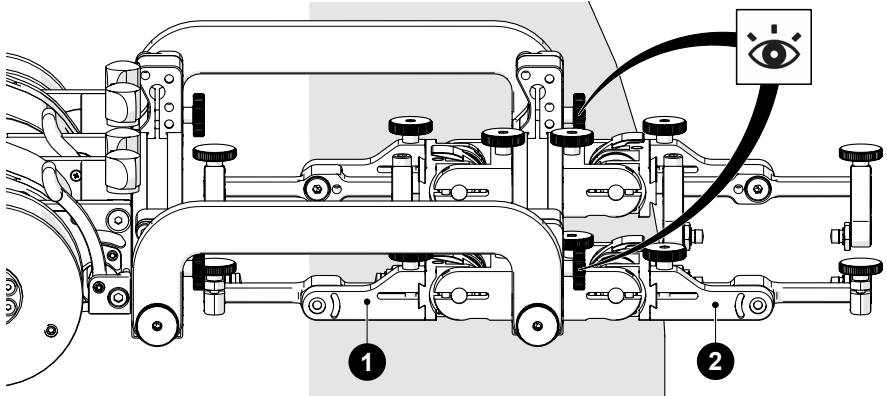

Fig. 240 - Position primary and secondary probe holders
2. Affix the probe holders (with attached wedges) to the low profile probe holder frame. On the frame bar, place the **2** secondary probe holders at the front and the **1** primary probe holders at the rear (Fig. 240).
3. Mount the low profile probe holder frame to the crawler (see “Swivel Mount” on page 64 for additional details). When mounting the low profile frame, ensure the attachment knobs (Fig. 240) are at the front (non-crawler side).